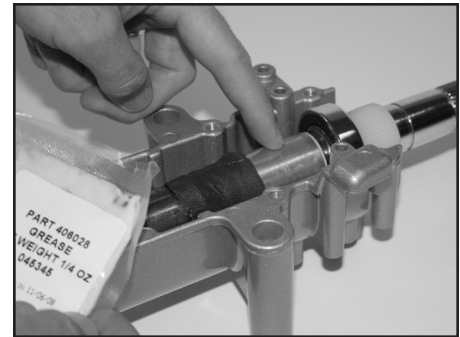

Figure 16
8. Apply grease part 406028 as supplied with kit to the entire exposed brass on the outer shaft contact ring. Figure 16